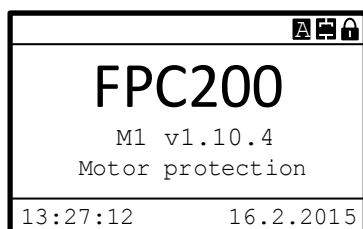

Figure 5.15: Start-up menu
- Alarm LED turns off, Ready LED turns on, Display turns on showing Start-up menu (Figure 5.15) for 5 s